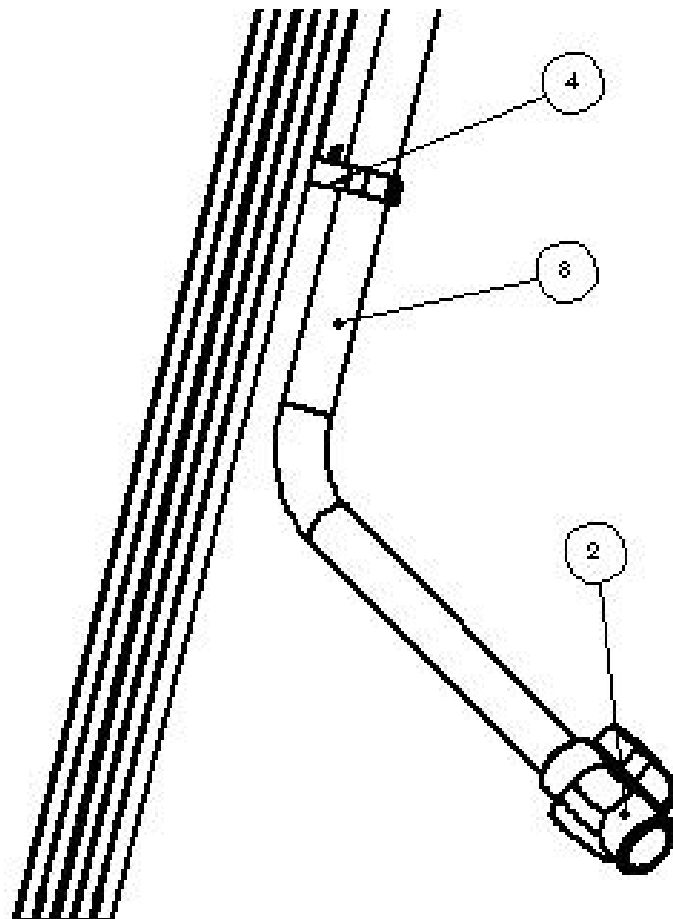

Figure 15
- 18) Apply PVC glue to one socket of the (#2) PVC Ball Valve and insert the PVC hose into the valve as shown in Figure 15. Allow the glue sufficient time to dry. The final step is joining the PVC Ball Valve to the water source.